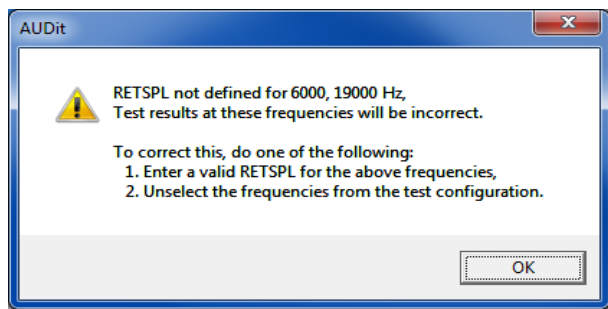

FIGURE 2-14 Frequencies without RETSPL
- Checking the **Show warning when there is no RETSPL defined for a given frequency** option will cause a warning message to appear before running a test without RETSPL defined for the frequency to be tested., as shown in Figure 2-14.
When RETSPL is not defined for the frequencies to be tested, the message shown in Figure 2-14 appears: